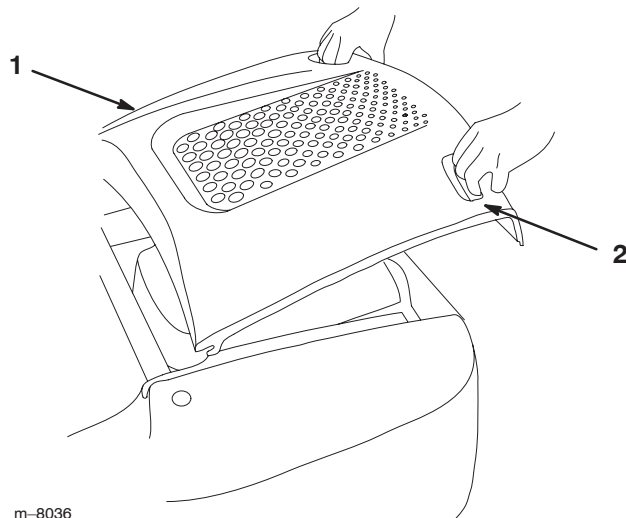

Figure 15
1. To remove the hood, grasp the handles and then pull the hood up and away from the machine(Fig. 15).
2. To install the hood, inserts the hooks in the cover into the slots in the housing and push the hood forward and down until it snaps into place (Fig. 15).